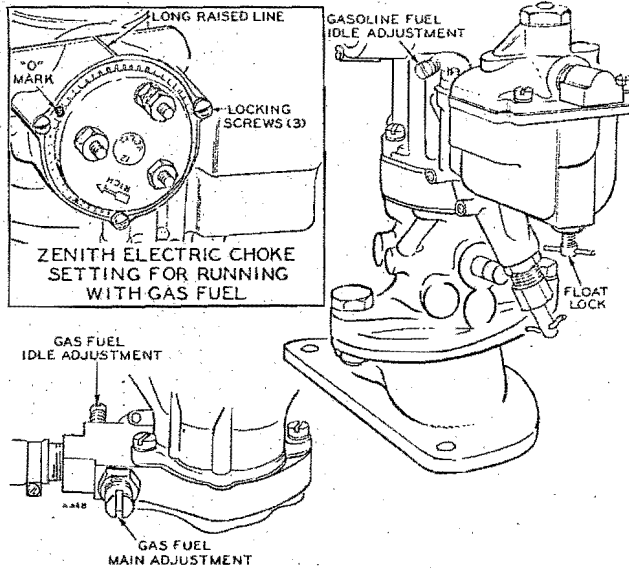

Fig. 12. Gas-Gasoline Carburetor Adjustments
**CARBURETOR, GAS.** - If the plant is equipped for gas fuel, see that the gasoline shut off is closed and that the float lock screw at the bottom of the carburetor is turned upward to its limit. The electric choke must be adjusted so that the adjustable cover is turned 10 to 12 notches counterclockwise from the zero mark, as shown on Figure 12. When properly adjusted, the electric choke will be completely open even at very low temperatures.